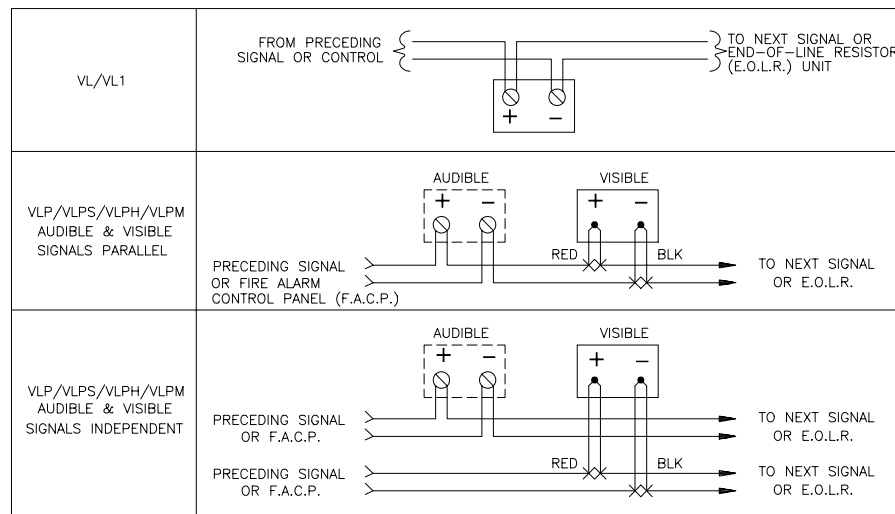

Figure 1.
VL and VL1 models have terminals with wire clamps, (2) wires - 12 AWG max. per position are allowed. Do not pigtail or wrap wires around screw. See Figure 1. VLP, VLPS, VLPH and VLPM models have double leads for in-out wiring (See Application Note 2).